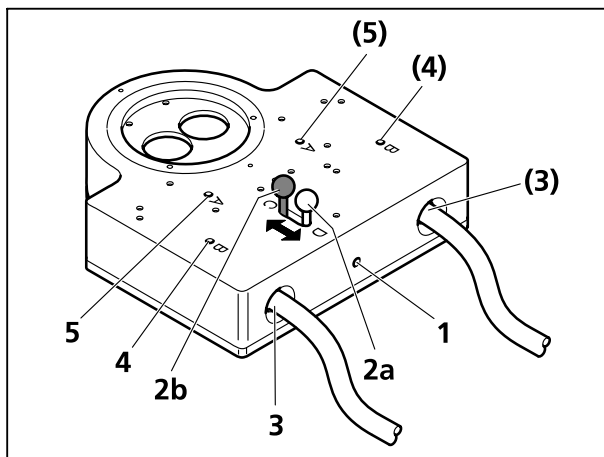

Fig. 20 Coaxial epi-illumination (bottom side)
Screw in the switching lever at the bottom (Fig. 20/2) after fitting the unit to mount S.
Screw in the switching lever at the back (Fig. 20/1) **before** fitting the unit to mount S.
- Move the switching lever backwards to position **D** (Fig. 20/2a) and retain it.
- Insert both light guide arms carefully into the back holes (Fig. 20/3), thread them into the light guide slot and push them to stop.
- Tighten the clamping screws through the drill holes **B** (Fig. 20/4) using the Allen key 3 mm.
To achieve a more homogeneous illumination for magnifications equal to or larger than those indicated in the following table, you can adjust the lever at front position **C** (Fig. 20/2b) without additional vignettation also for **objectives S 1.0x**.